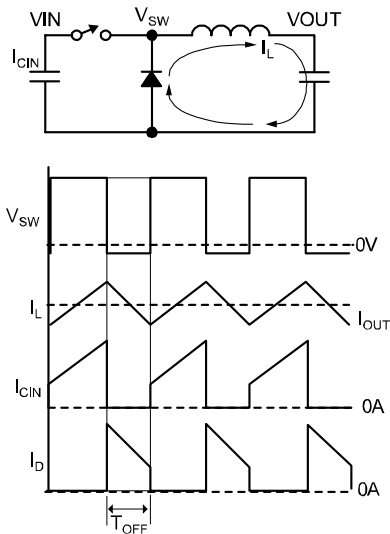

Figure 4. Off-Time
**Figure 4 demonstrates the off-time.** During the off-time, the high-side internal P-channel MOSFET turns off. Since the current in the inductor has to discharge, the current flows through the free-wheeling Schottky diode to the output. In this case, the inductor discharge rate is (where  $V_D$  is the diode forward voltage);